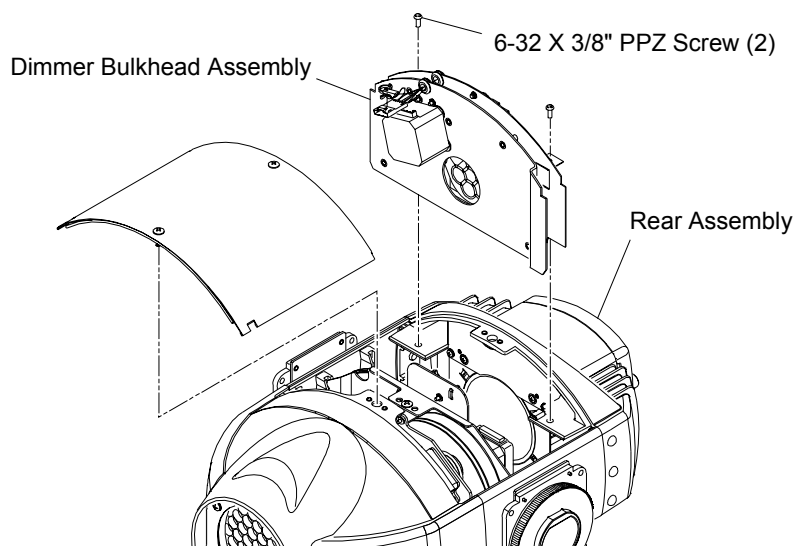

Figure 2-9: Dimmer Bulkhead Assembly Replacement
- Step 3. At dimmer bulkhead assembly, remove two 6-32 X 3/8" PPZ screws securing dimmer bulkhead assembly to rear assembly, and remove dimmer bulkhead assembly (**Figure 2-9**).